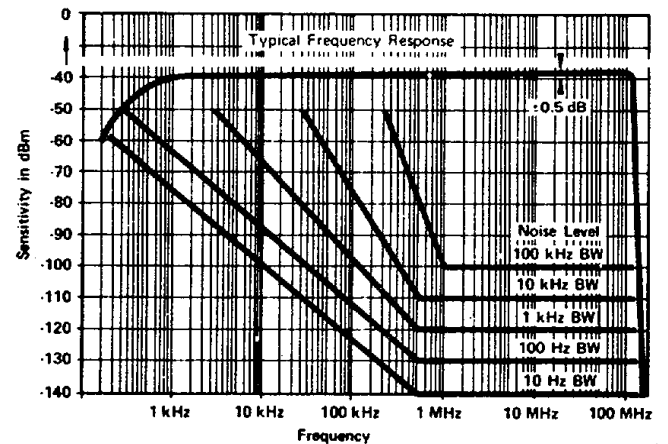

Figure 1-4. Typical Frequency Response
4Typical sensitivity vs. input frequency curves for frequencies from 1 kHz to 1 MHz shown in Figure 1-4 must be derated by 10 dB.
**Frequency Range:** For operation of the analyzer outside the 1 kHz to 110 MHz range, see Figure 1-4. Average Noise Level vs. Input Frequency Curve.
The average noise level determines the maximum sensitivity of the analyzer. For typical noise level curves see Figure 1-4.
**Frequency Response (flatness):** See Figure 1-4.